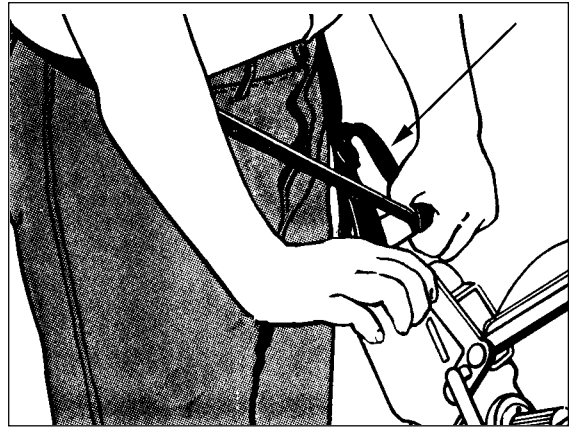

Figure 9
- b. Cross the straps at the waist. See figure 9.